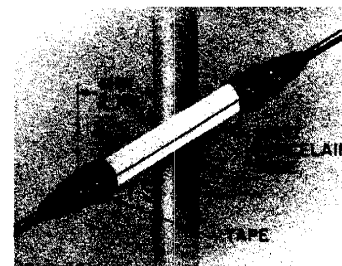

Fig. 1 — Crossing Exposed Steam Pipes
- Split porcelain tube extending 2 inches beyond each side of object being crossed when excessive heat is a factor (see Fig. 1).